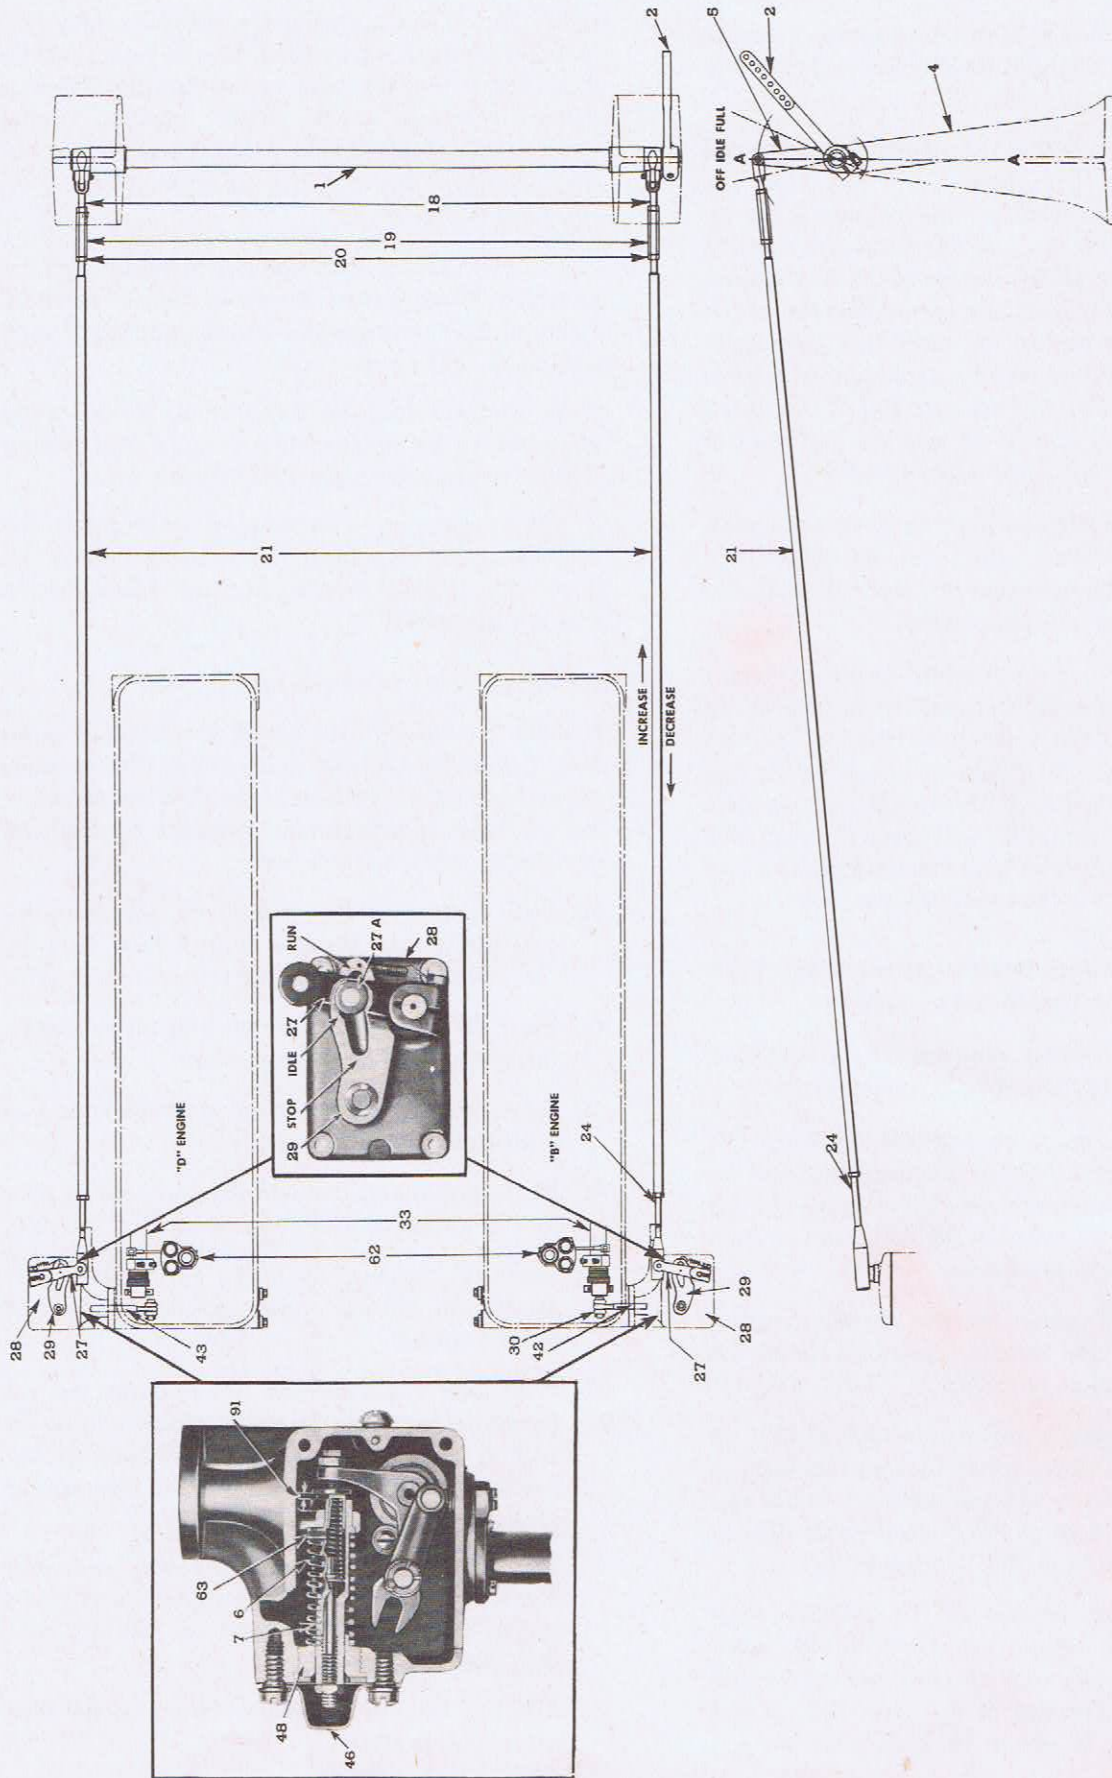

FIG. 12—THROTTLE CONTROL ADJUSTMENT DIAGRAM FOR TWIN ENGINES USING LIMITING SPEED GOVERNORS.
3. With engines stopped, set the throttle control cross shaft (1) so that throttle control levers (5) are in a vertical position as shown at "A-A", Fig. 12.
4. With engines stopped, adjust turnbuckles (19) on the two throttle control tubes (21) so that pins in throttle control levers (27a) at governor cover rest against the shoulders of the control cams (29) in the "IDLE" position at the two governors.
5. Now move master throttle (2) to "FULL" open position, at which setting the pin in throttle lever (27a) at both governors should just strike the extreme end of the slot in the cam (29) at the "RUN" position. If either or both pins do not
- (a) With both engines warmed up, stop engines and disconnect throttle control tube (21) for "B" engine by removing pin at clevis (18).
- (f) If no load speeds of the two engines are not the same, increase the speed of low engine by adding shims (63) (part No. 5150947), between the high speed spring (6) and the spring plunger (7) as shown in Fig. 12.